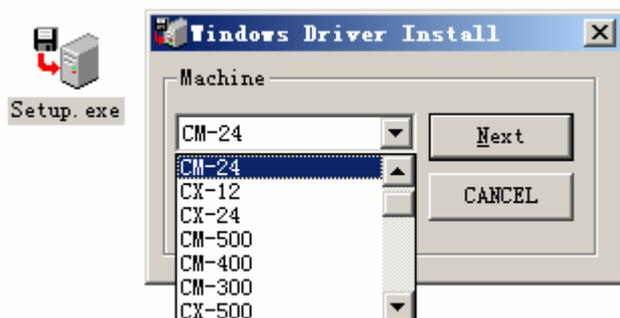

Figure 3
Step 3: Select **START—>SETTINGS—>PRINTERS AND FAXS** to set the printer. To avoid mistake we advice you remove all ROLAND driver which exist in your company and then install the new one. During the installation, you can choose CM-24 (Figure 3). Also COM port needs to choose when installing. Please select the